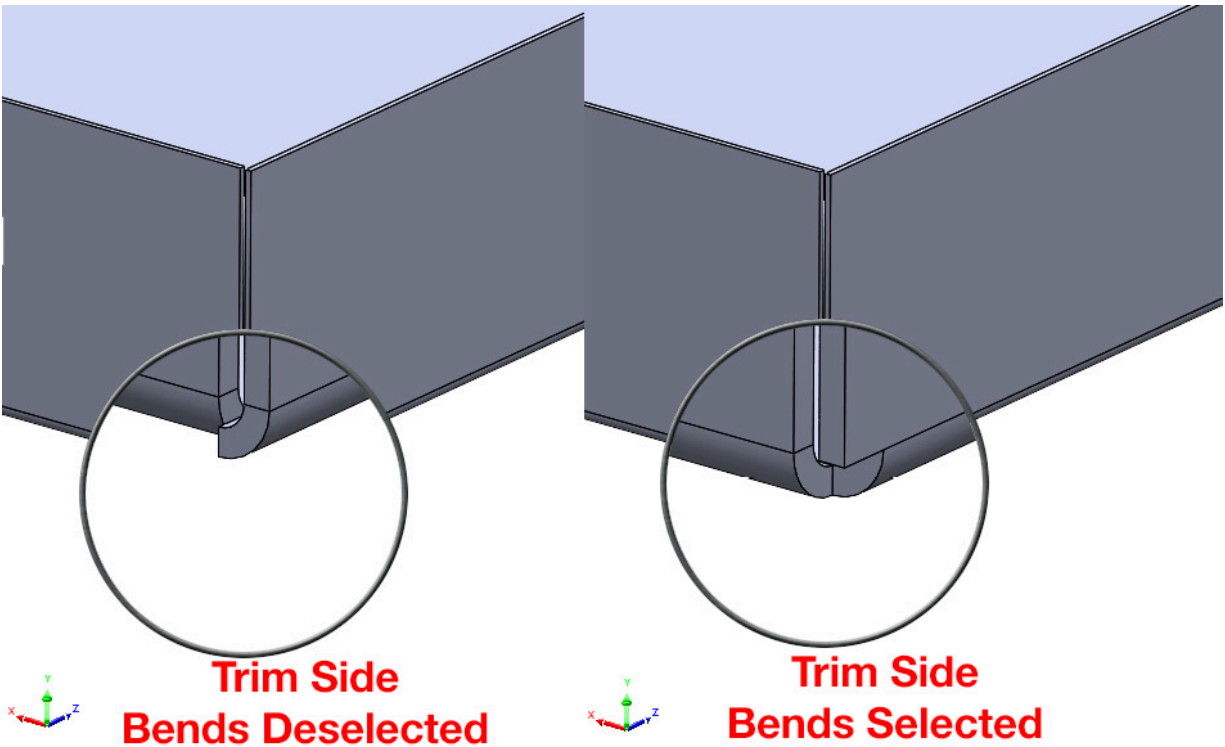

Figure 2.24: A corner with and without the Trim side bends option selected
4. The **Trim side bends** option creates an automatic trim in the corner where the two flanges meet. Try editing the second Edge Flange, then, put a check in the **Trim side bends** checkbox and click **OK** to see the difference between the two options (*Figure 2.24*).